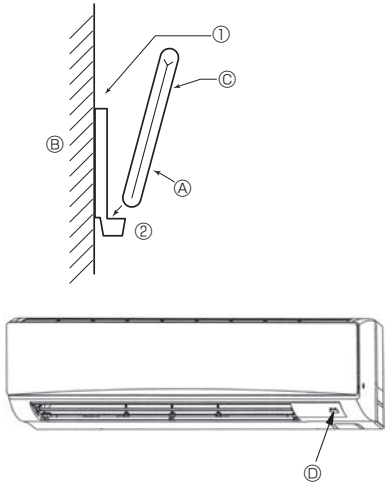
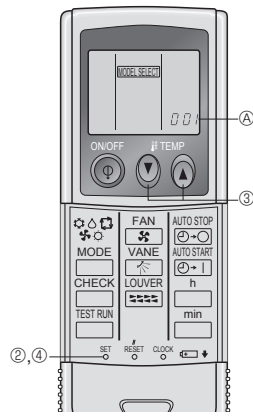

Fig. 6-2
Fig. 6-3
2) Installation method (Fig. 6-2)
① Attach the remote controller holder to the desired location using two tapping screws.
② Place the lower end of the controller into the holder.
3) Setting (Fig. 6-3)
① Insert batteries.
② Press the SET button with something sharp at the end.